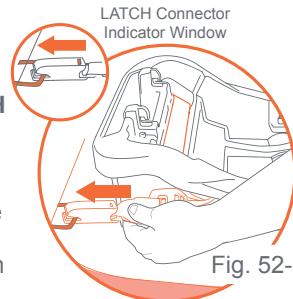

Fig. 52-1
5. Locate the **LATCH** anchors in the vehicle seat (Fig. 51-2). Once located, snap the Safety Seat **LATCH** connectors onto the steel rod. Listen for the click and check that both connectors are firmly attached to the anchor rods by pulling outward on the connectors. The **LATCH** connector indicator window will turn Green when the **LATCH** connector is attached to the **LATCH** Anchor (Fig. 52.1).